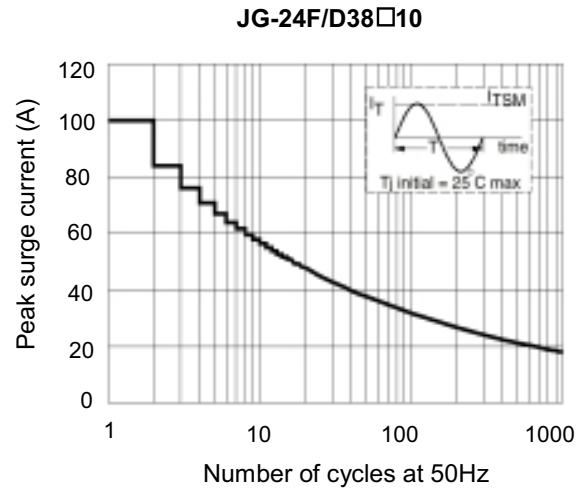

Figure 2 Maximum permissible non-repetitive peak surge current vs. Number of cycles
(3) See figure 2,3,4.
(4) Dielectric strength is measured between input and output.